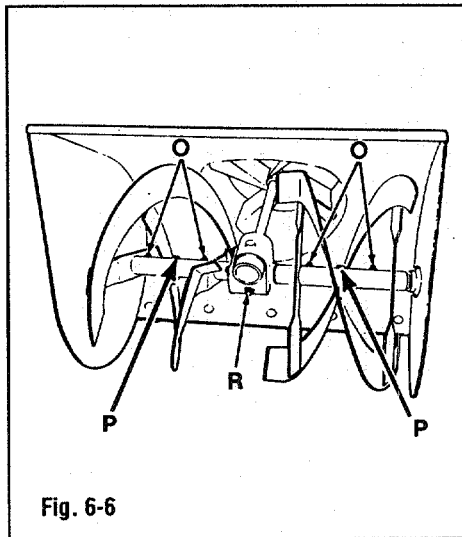

Fig. 6-6
8. Remove shear bolts from auger shaft, then lubricate the four auger grease fittings (O, Fig. 6-6) using a grease gun dispensing multipurpose automotive lubricant. Carefully and slowly spin auger three or four times. Reinstall shear bolts.
A. Place snowthrower on smooth, level surface. Unscrew plug (R, Fig. 6-6) from front of gear box.